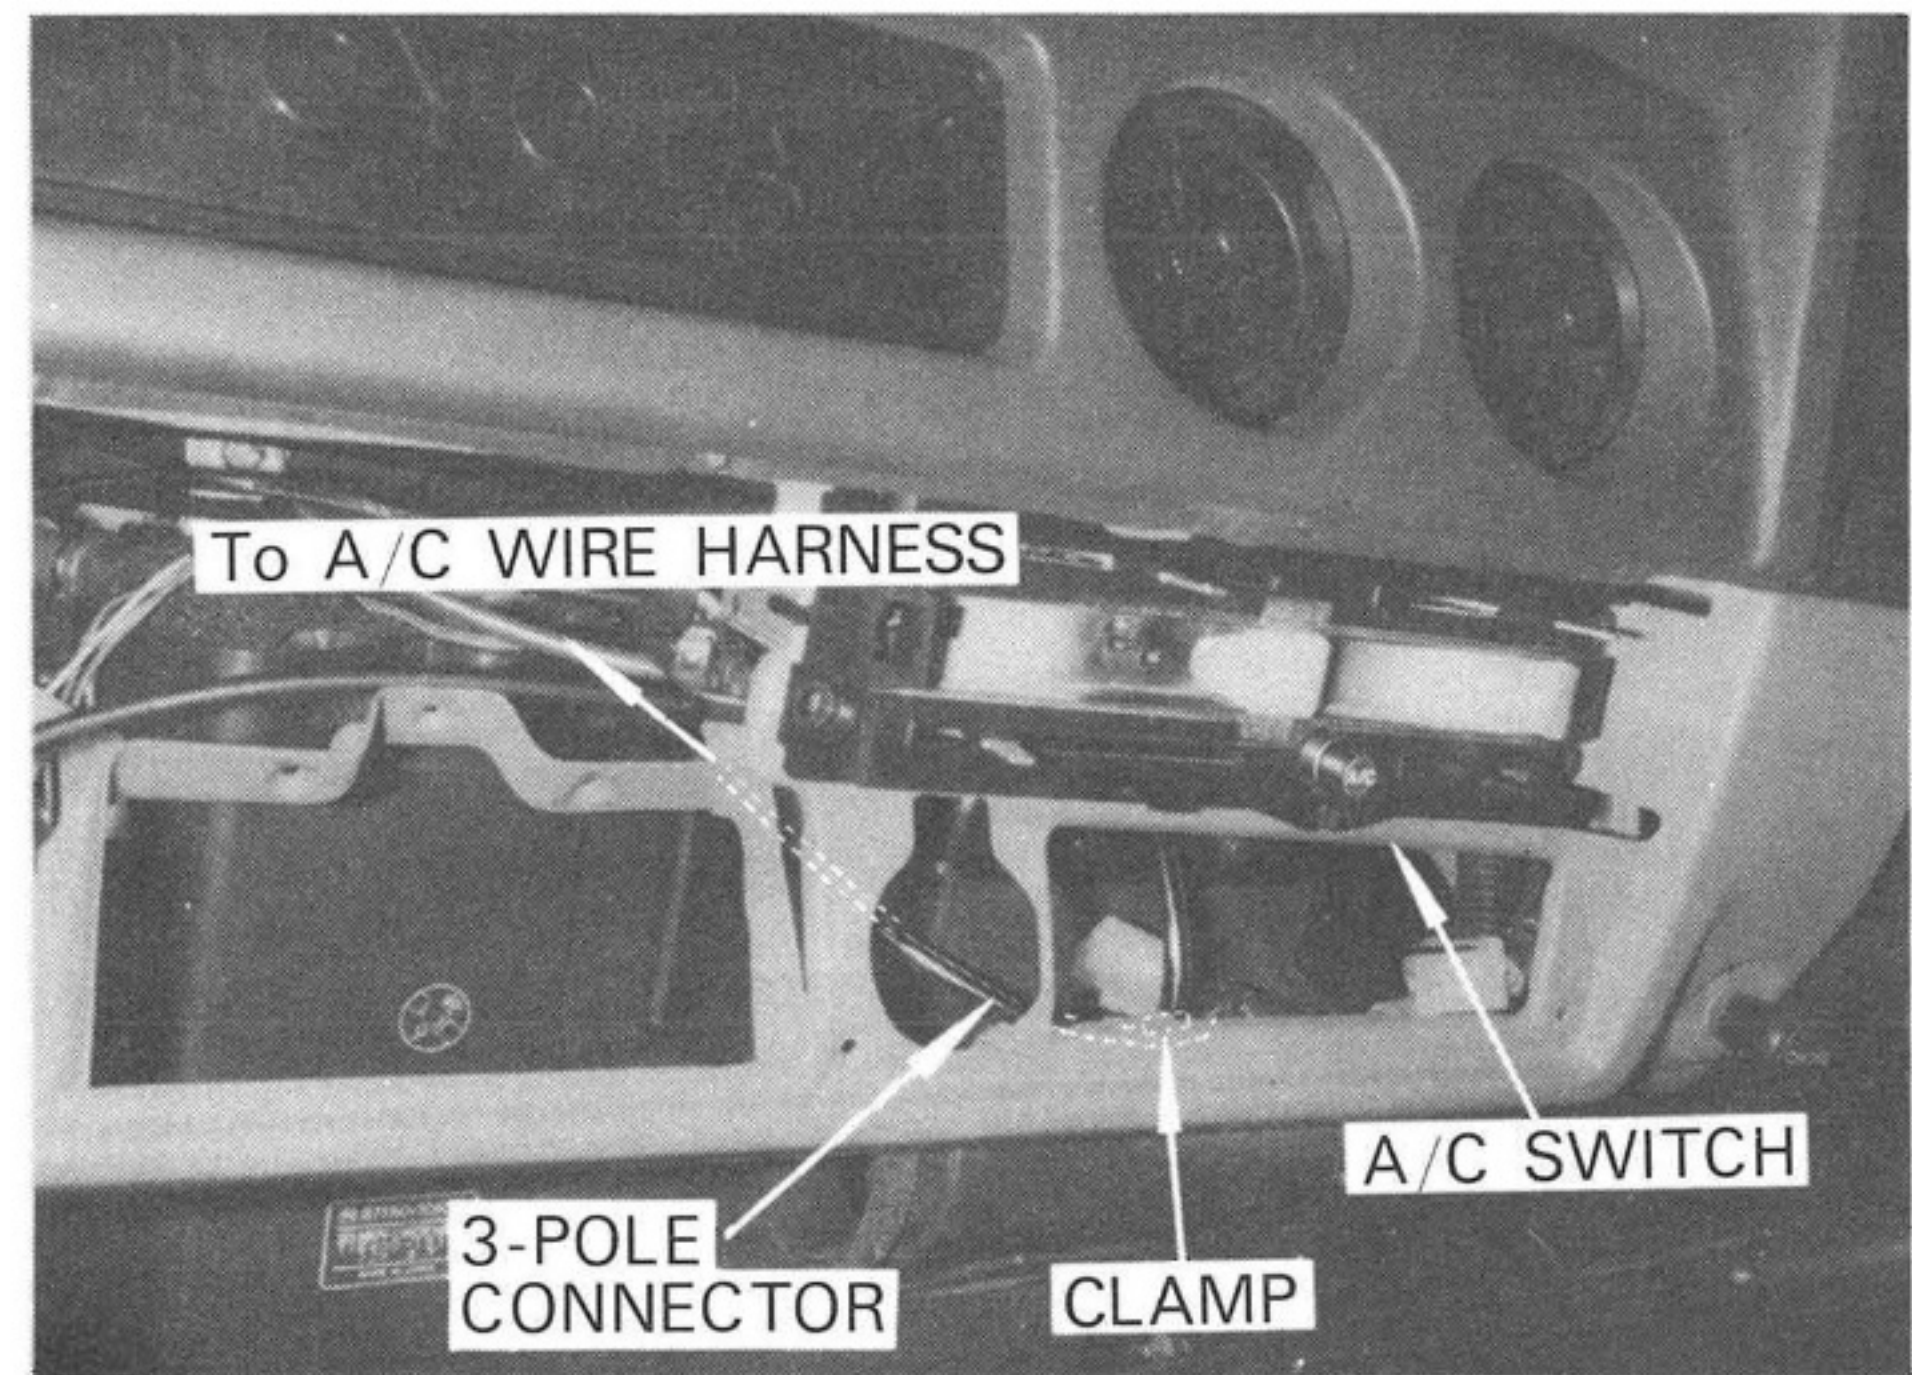

Fig. 1-11
- C) Reinstall the A/C control panel and route the A/C wire harness as shown in Fig. 1-11.
- D) Connect the 3-pole connector of A/C wire harness to the A/C switch. See Fig. 1-11.